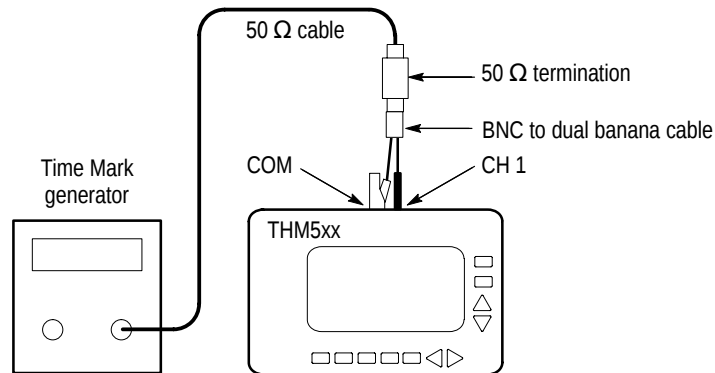

Figure 6: Time Base Accuracy Test Setup
1. Connect the time mark generator marker output to the THM500 series instrument CH 1 and COM inputs using a 50 Ω termination as shown in Figure 6. Assure that the ground connection for each adapter connects to the common (or ground) connector of its associated instrument.